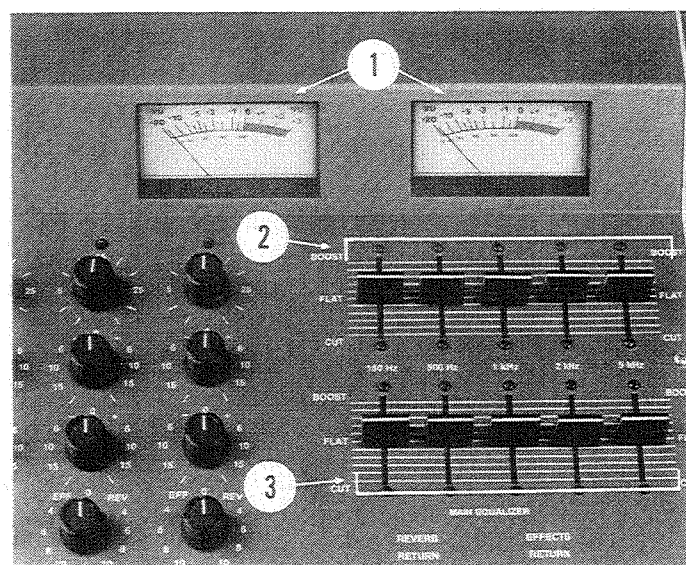

FIGURE 7 — Main, Monitor Equalizer Also VU Meters
These adjust the composite level for the Left and Right channel outputs. They actually control the gain of the summing amplifiers, thereby preventing them from overloading. This means that the Channel Level controls can be operated at higher levels while the Master Levels can be operated to lower levels, improving the useable signal-to-noise ratio. Loudness of the Left and Right Channels is indicated by the respective VU Meters (Fig. 7 - Item 1).
Main Equalizer (5 Slide Controls) (Fig. 7 - Item 3)
(Fig. 7 - Item 2)
Left and Right VU Meters (Fig. 7 - Item 1)
4. Set both Main and Monitor equalizers (Fig. 7 - Items 2, 3) to their "Flat" (center) positions.
The MA8S has three 5 band graphic equalizers (Fig. 7). One for the Left output, one for the Right output and one for the Monitor output. The Left and Right equalizers are controlled simultaneously by common control knobs, labeled "Main Equalizer" on the front panel. These equalizers are used to adjust the tonal quality to suit the acoustics of the room and to give more volume before feedback occurs. Example: If the room has a resonance around 120 Hz, simply lower the 150 Hz equalizer control until the feedback disappears. The center position indicates "flat" response.